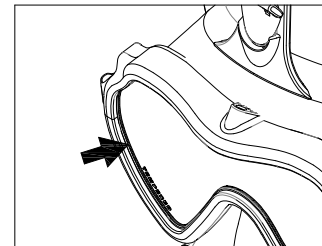

FIGURE 6
3. Inspect and verify that the skirt is between the lens and the frames along the entire perimeter of the lens (Fig. 6).